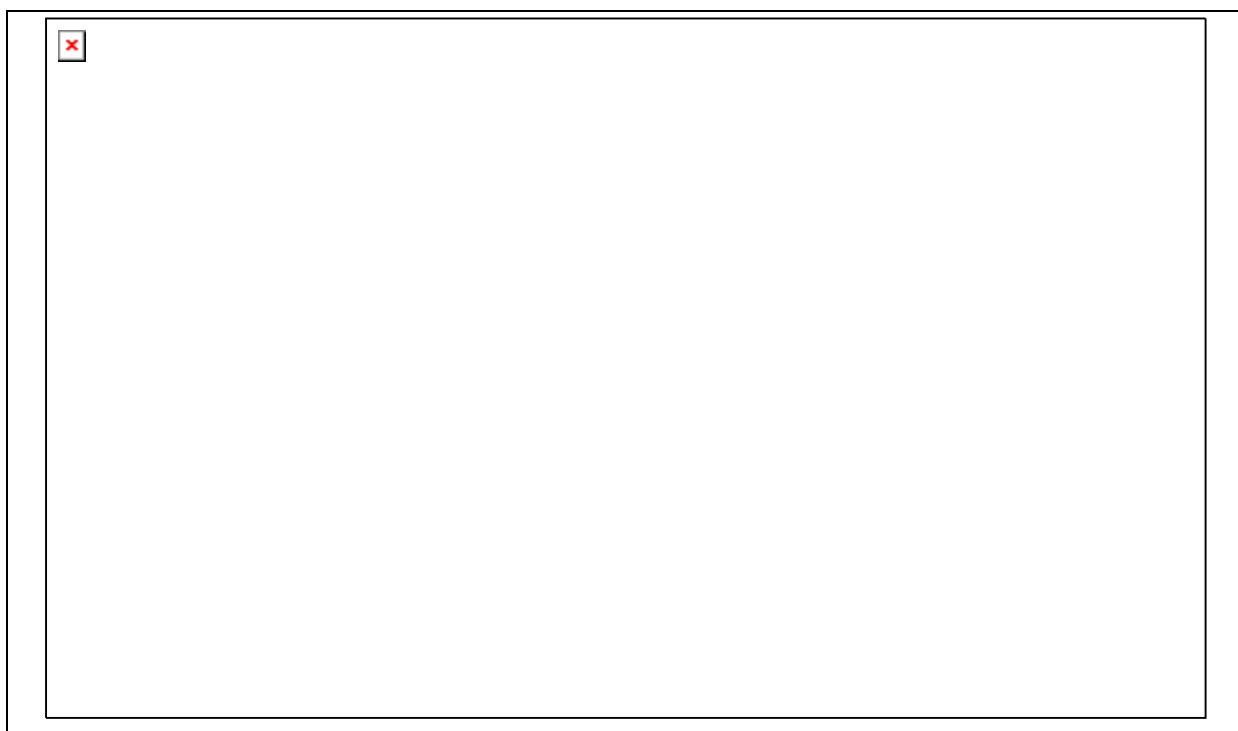
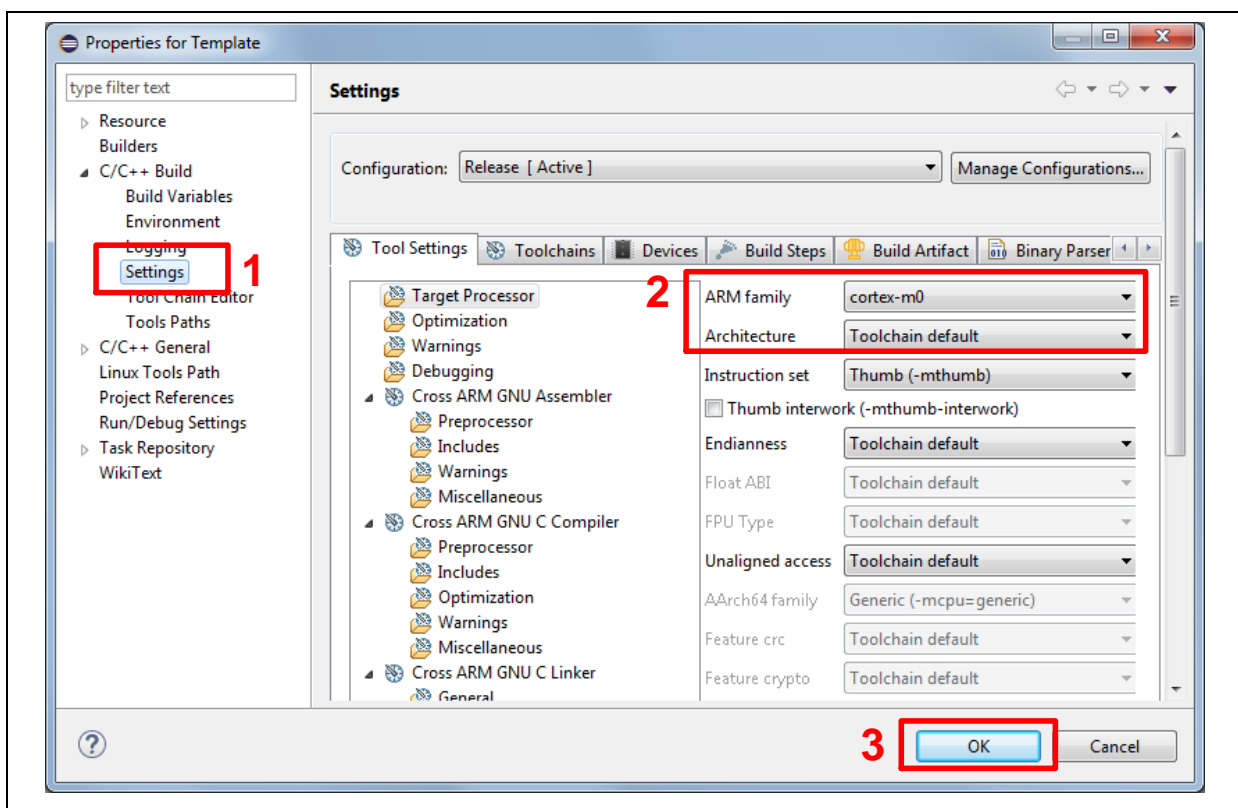

Figure 3-29 Open Project Properties Window
Figure 3-30 Project Properties Settings
3. Click the “Template” project and find the project properties as shown in Figure 3-29. Make sure the settings are the same as settings in Figure 3-30.